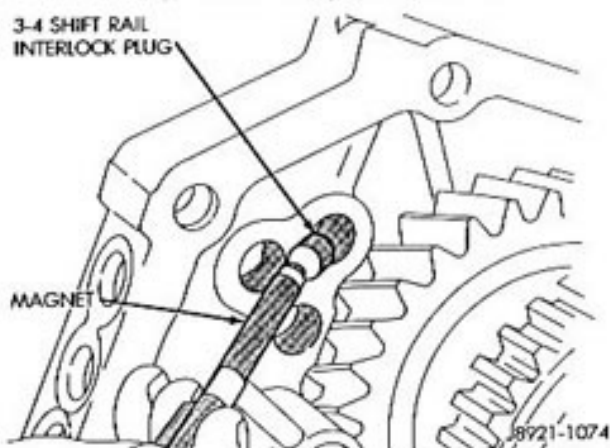

Fig. 45 Removing 3-4 Shift Rail Interlock Plug
- (5) Remove the 3-4 shift rail interlock plug from the intermediate plate with a magnet (Fig. 45).